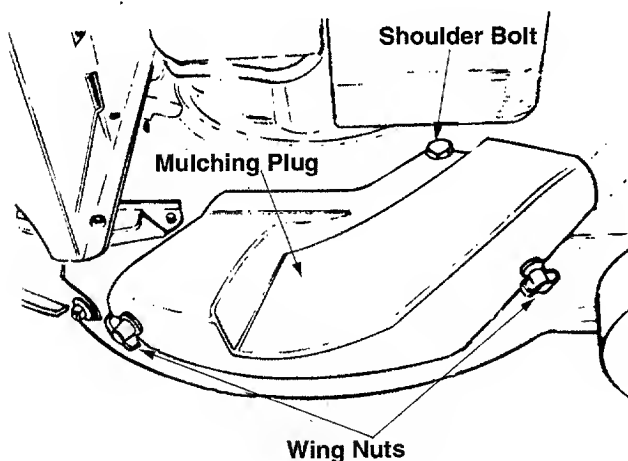

Figure 8
2. Attach the mulching plug by first placing it over the rear bolt in the side of the deck. Then slide the notch in the top of the mulching plug around the shoulder bolt on the top of the deck. Slide the notch in the side of the mulching plug around the front bolt in side of the deck. Secure using two wing nuts. See Figure 8.